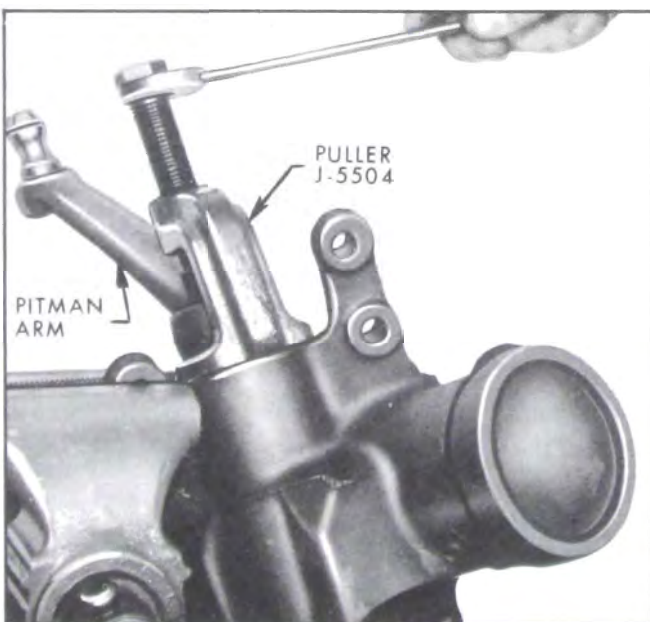

Figure 8-35—Removing Pitman Arm
7. If necessary remove pitman arm from pitman shaft, using Puller J-5504. See Figure 8-35.